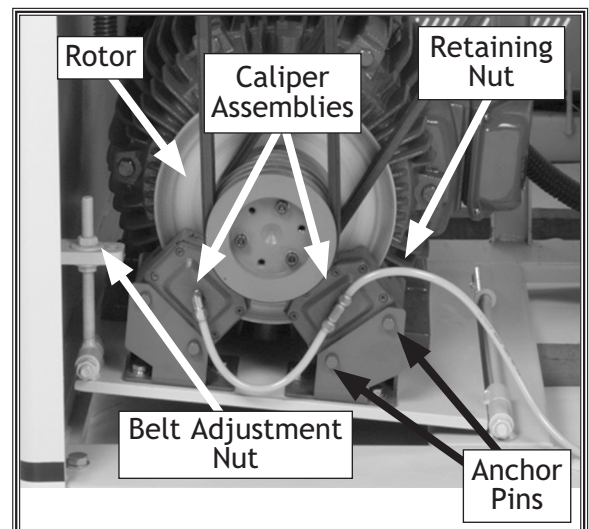

Figure 51. Belt removal access.
4. Remove the upper caliper anchor pin retaining nut and washer (Figure 51) on both brake calipers.
5. Use locking pliers to clamp on the anchor pin end, pull the pin from the caliper mount, and remove the springs (Figure 51) from both brakes.
7. Remove the upper belt adjustment nut and washer (Figure 51).